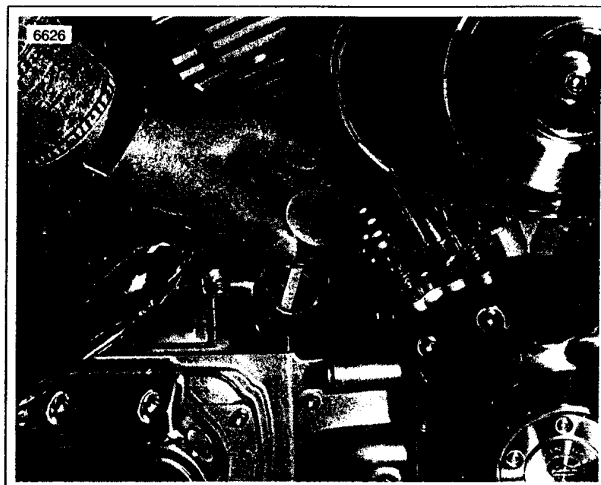

Figure 1-1. Checking Oil Level
See Figure 1-1. Check engine oil level:
2. See Figure 1-1. Remove the oil filler plug/dipstick by pulling steadily while moving plug back and forth.
7. See Figure 1-1. Fill oil pan with the correct amount of oil. Use the proper grade of oil for the lowest temperature expected before next oil change. See Table 1-1.